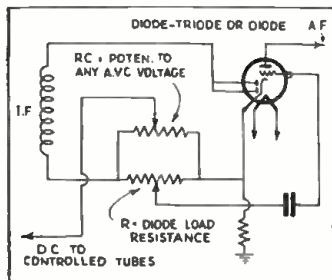

Fig. 3. A variable A.V.C. control.
**VARIABLE A.V.C. ACTION.** Here is a kink for varying the A.V.C. control voltage which is handy when hunting for DX stations, especially if the receiver does not have delayed A.V.C. This is also useful in cutting out noise when tuning. The potentiometer (Fig. 3) should have a high value (about 2 meg.) to prevent changing the diode load and cutting down the input to the first A.F. section.